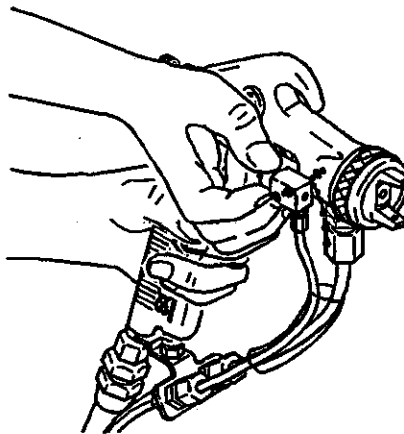

Figure 10
3. Pull gun trigger to actuate valve. Check for activator flow from the back side of the valve through the small orifice (Figure 10). If activator flow is present, the problem is in either the body, baffle or air cap. If there is no flow, proceed to Step 4.